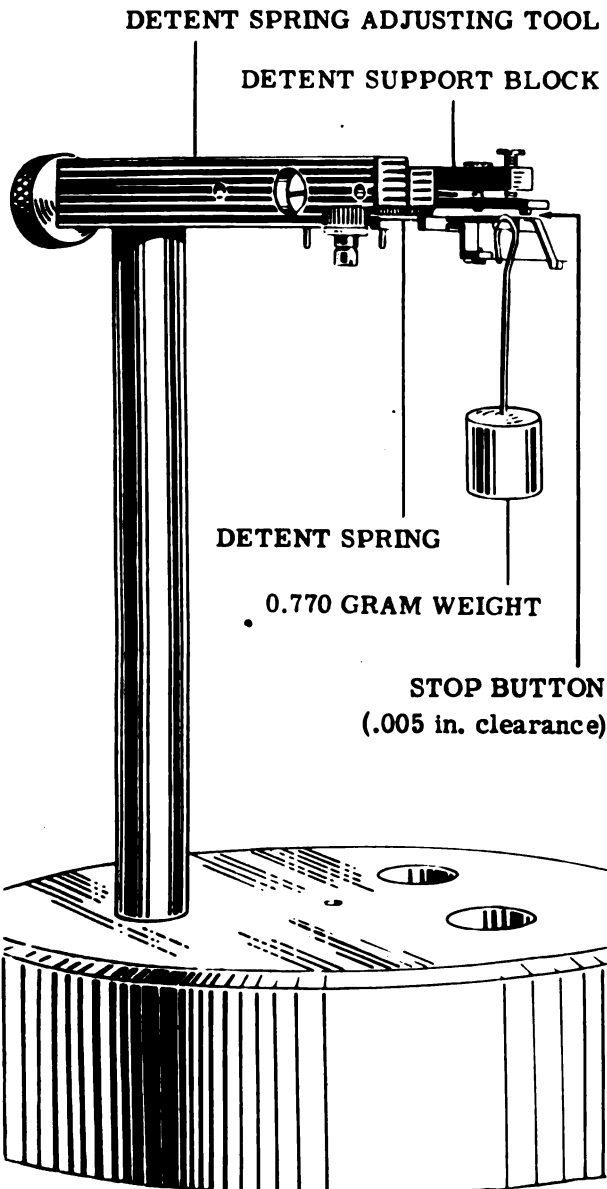

Figure 88
78. Check the spring action of detent spring in spring testing fixture, Tool No. 8. Hang weight of 0.770 grams on the locking jewel. See Fig. 88. This weight should separate the detent spring from the stop button